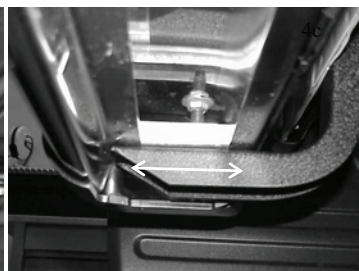

Fig. 7
- (d) Lift and rotate the Pinch Clips 90 degrees so they are parallel with the Brackets. (Fig.7)
- (1) Make sure that the tabs on the Pinch Clip drop into the slots in the Bracket.
- (2) Make sure all (4) Pinch Clips are correctly engaged to their respective Brackets